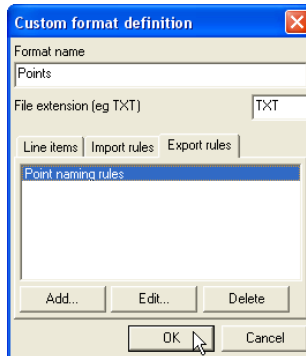

Figure 2-5. Save New Format
9. When finished adding the desired *Line items*, *Import rules* and *Export rules*, click **OK** to save the new format (Figure 2-5).